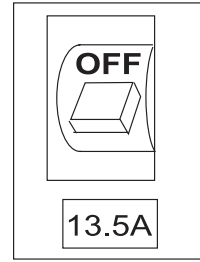

Figure 21. Main Circuit Breakers (Off)
1. Place the main circuit breaker (Figure 21) in the **OFF** position.